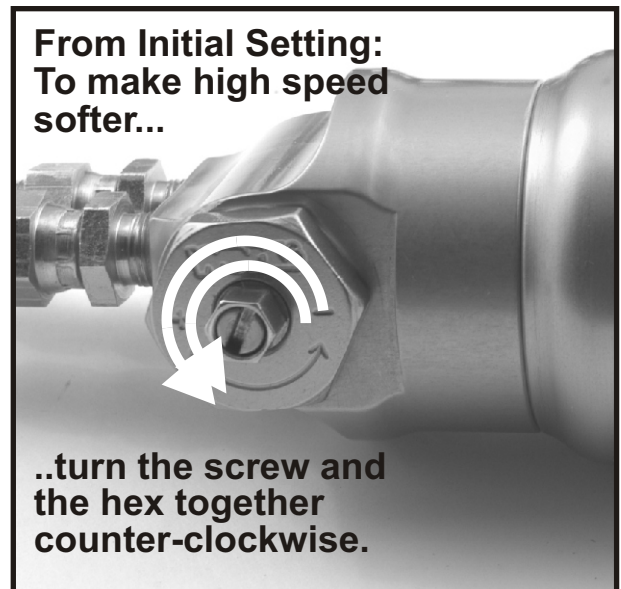

Fig. 3
Fig. 3: Compression adjuster screw location on the remote reservoir. Adjustment is clockwise for stiffer, and counterclockwise for softer using a screwdriver. Do not attempt to turn the large hex.
6. If the high speed damping is excessive, turn the slotted adjuster screw and the hex counterclockwise--at the same time keeping the Sharpie marks aligned (See Fig. 3). There are three full revolutions of the high speed adjuster.